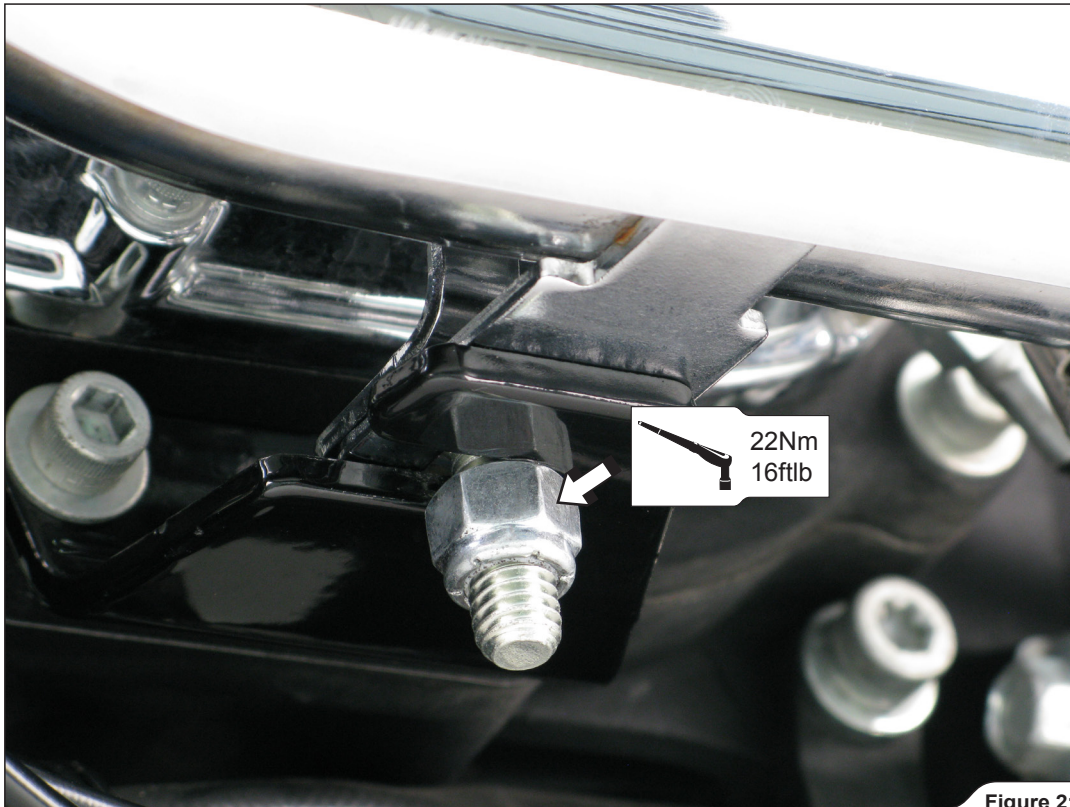

Figure 21
9. Tighten marked bracket bolt with the specified torque (**Figure 21**).